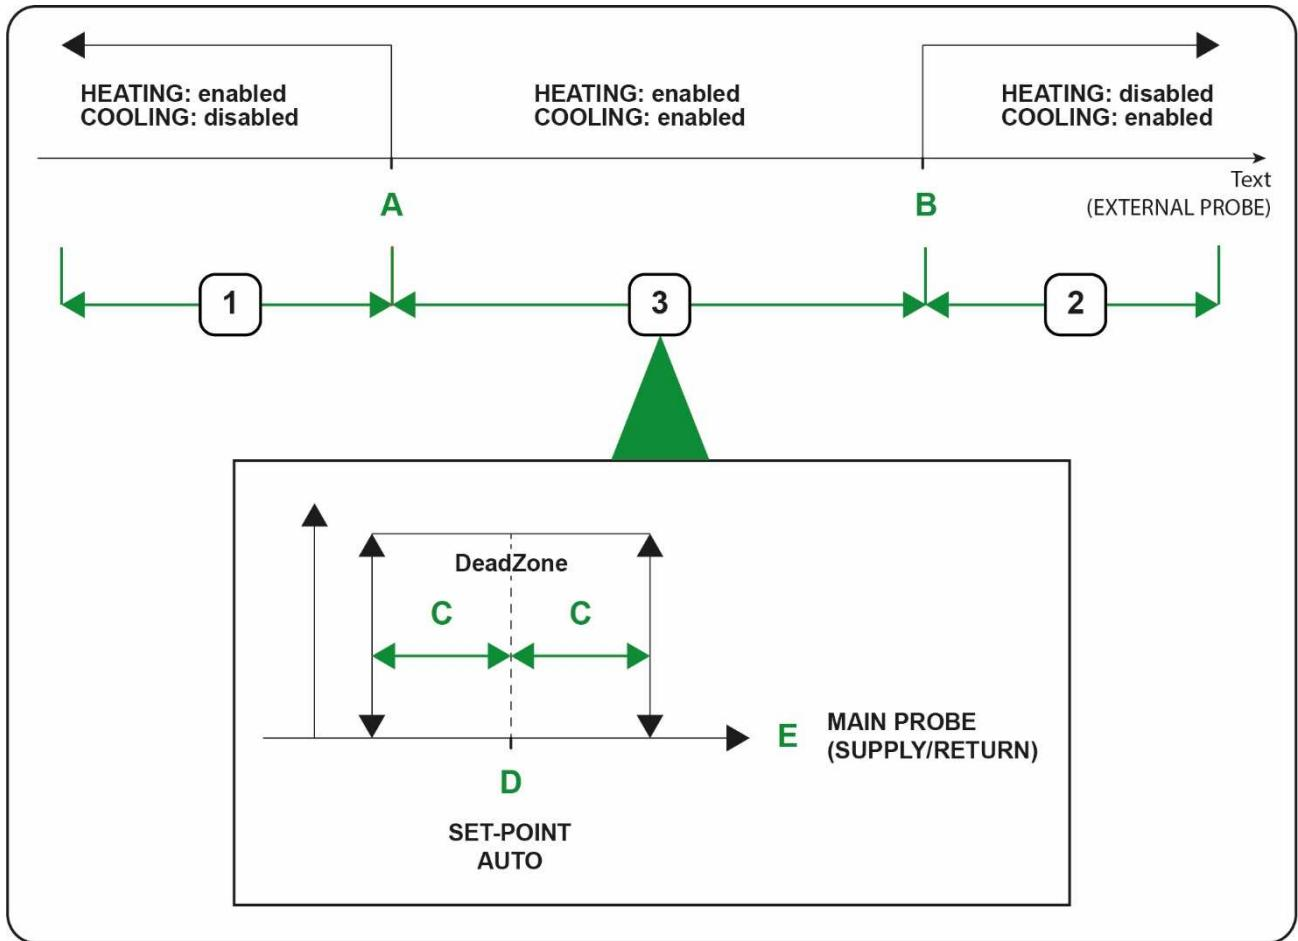

Fig 6 - - Auto mode functioning
- in the case of an external temperature that is lower than the SP_T_FORCEWINTER parameter, there is heating straining (1 - Fig 6 -on pag. 30);
- in the case of an external temperature that is higher than the SP_T_FORCESUMMER parameter, there is cooling straining (2 - Fig 6 -on pag. 30);
- in the case of an external temperature between the two previous parameters, depending on the kind of temperature regulation **3.5 Temperature regulation** on pag. 32) the move from cooling to heating (and vice versa) is handled via a return probe or a supply probe (3 - Fig 6 -on pag. 30).
In **Fig 6 -on pag. 30** the reference parameters are shown using tags (capital letters), the reference parameters for the auto mode functioning. See the following table for the correspondence between tags and parameters.